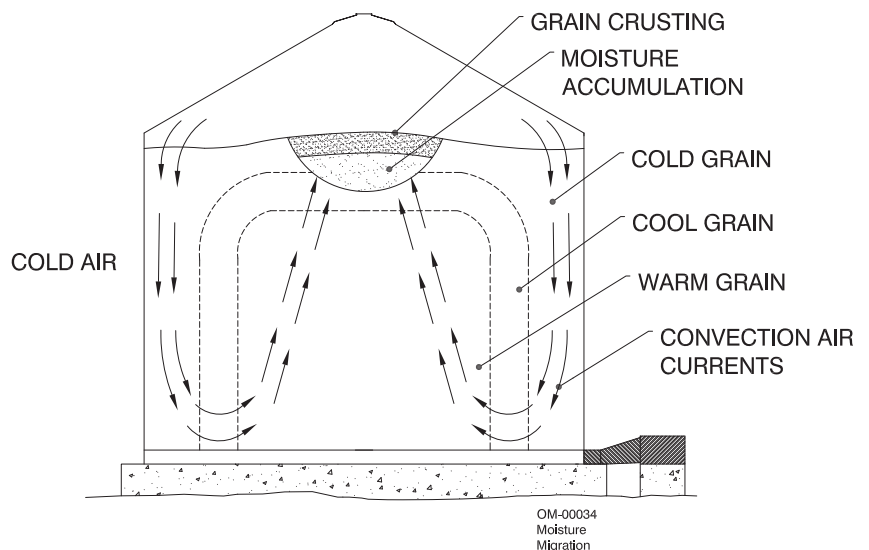

Figure 32. Moisture migration.
5.4.2. When warmer fall outside temperatures change to cool winter temperatures, air near the bin wall cools and sinks to bottom of bin. As air moves toward the floor and center of the bin it warms up and rises through the center mass of the grain. This movement of air is called convection currents. The warm air picks up moisture as it rises up through the grain. When the grain nears the surface, it cools the warm air and thus moisture in the air condenses. Cool air cannot hold as much moisture as warm air. As this circulation continues, moisture begins to accumulate near top center of the bin (see Figure 32).